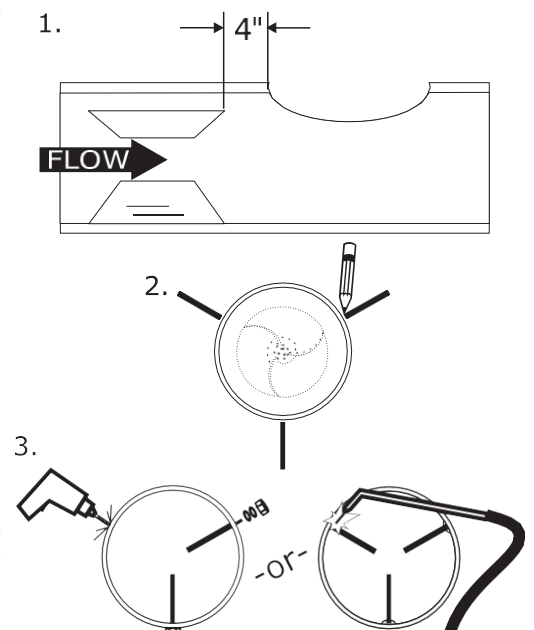

Figure 3.6
3.2.4 Install straightening vanes (if required) as shown on Figure 3.6.